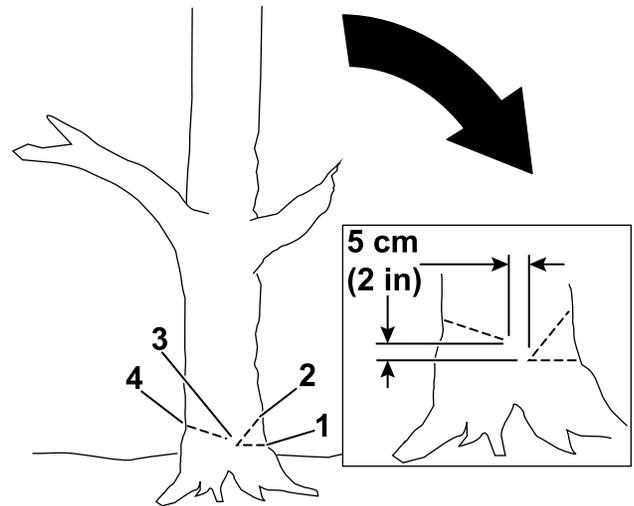

Figure 17
- Make a second cut to form a notch, starting the cut at least 5 cm (2 inches) above and away from the first cut (Figure 17).
- Make the back cut from the opposite side of the notch and about 5 cm (2 inches) higher than the bottom of the notch as shown in Figure 17.
**Important:** Stop the third cut 2.5 to 5.0 cm (1 to 2 inches) from the notch to form a hinge between the cuts (Figure 17), which keeps the tree from falling in the wrong direction or twisting as it falls.
**Note:** As the back cut nears the hinge (Figure 17), the tree should begin to fall.
- Make the first cut a third of the way through the tree diameter on the side where you want the tree to fall (Figure 17).